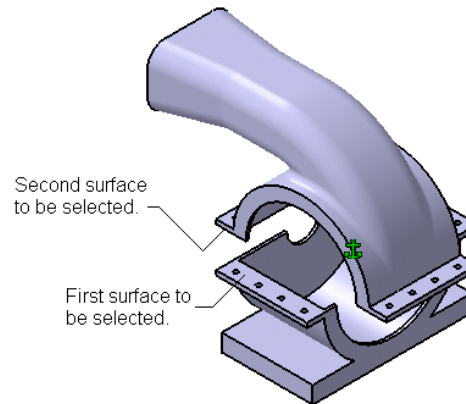

Figure 11-68 The surfaces to be selected to apply **Contact** constraint
- d. Insert the Upper Housing into the assembly and place it over the lower housing by applying proper constraints, refer to Figures 11-68 through 11-70.
The Upper housing is placed at its default location, as shown in the Figure 11-68. You need to apply constraints to place it properly over the Lower Housing.
2. Choose the **Contact Constraint** button from the **Constraints** toolbar. Select the two faces shown in Figure 11-68. You need to rotate the view of the assembly to select the surface that is not visible in the current display.